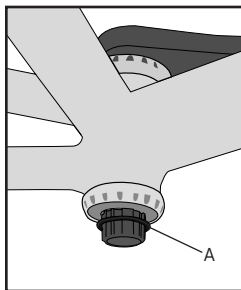

Figure 8 Attach the right elastomer (A)
4. Slide the elastomer washer onto the axle (Figure 8) until it touches the cup.